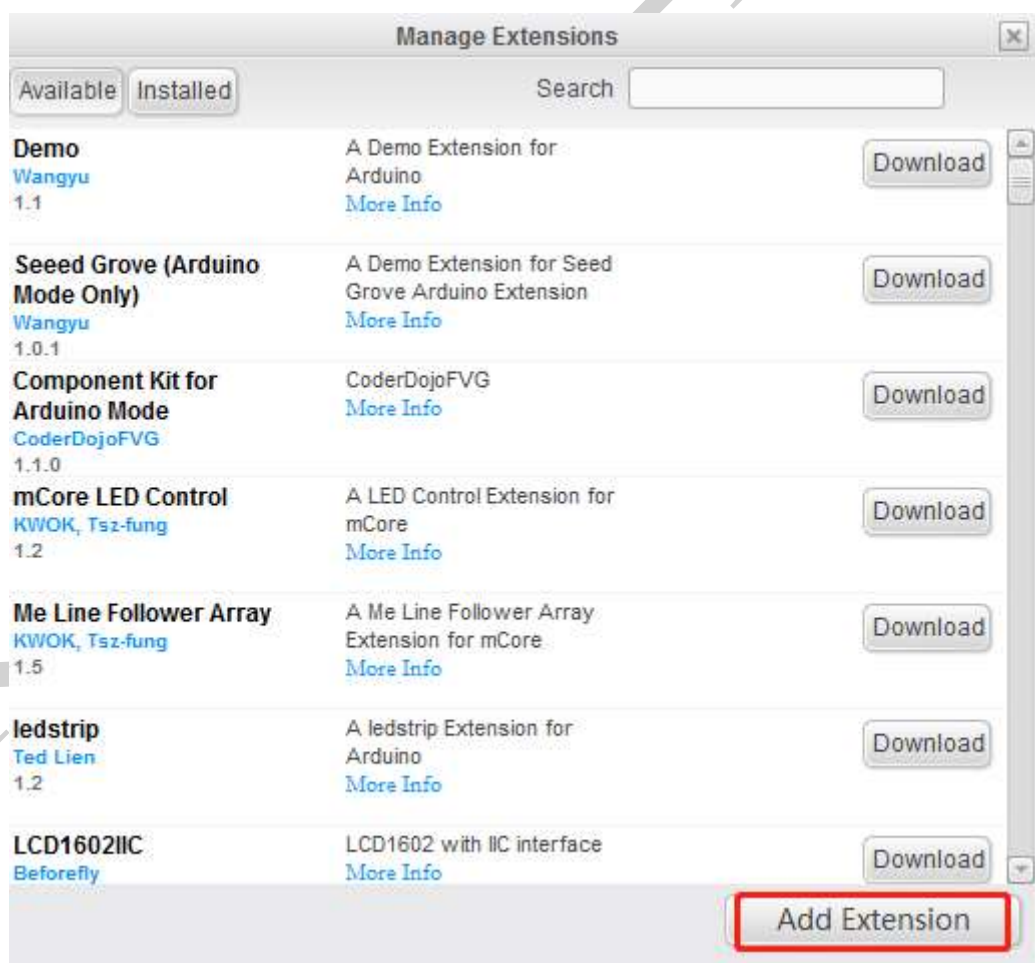

图 2-2
- 3) In the Extension Manager, click "Add Extension" in the lower right corner, as shown in Figure 2-2.